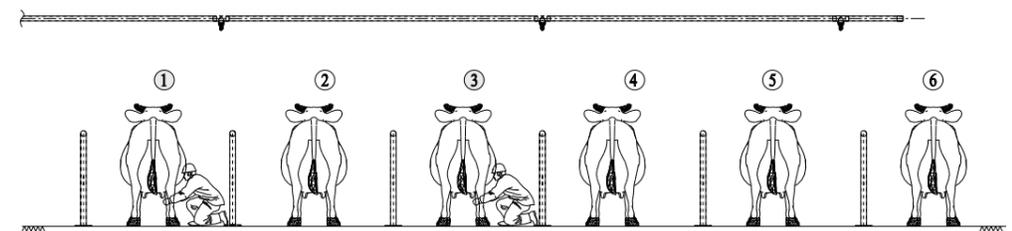

Figure: 5.3
Step-1: Prepare animal number ① & ①. Refer Figure 5.3.